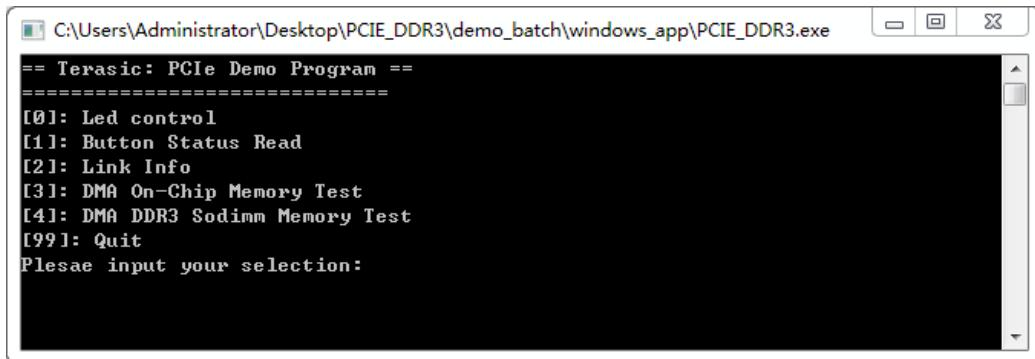

Figure 7-17 Screenshot of Program Menu
7. Goto windows_app folder, execute PCIE_DDR3.exe. A menu will appear as shown in **Figure 7-17.**